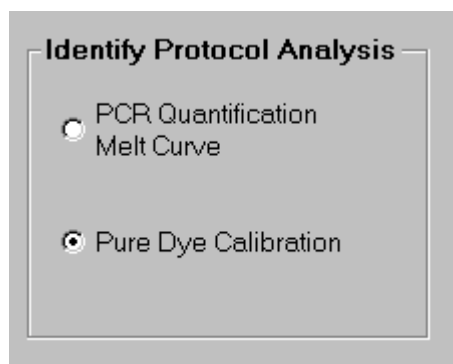

Fig. 2.9.
- In the RunPrep screen, enter the volume of reagent on the pure dye calibration plate, and choose Pure Dye Calibration as the type of protocol. **Note:** when Pure Dye Calibration is chosen Experimental Plate is grayed out for the source of Well Factors (Figure 2.9).